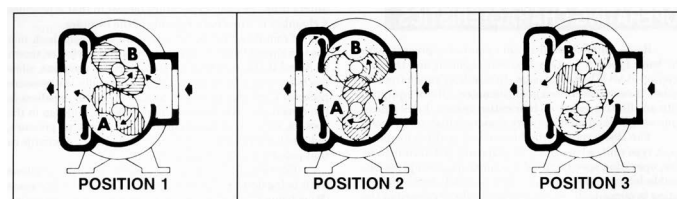

Figure 2 - Flow Through a RAS WHISPAIR Blower
Operation of the proprietary Roots RAS WHISPAIR blower is represented in Figure 2. Just as in the standard Roots RAS blower, the air flow is from right to left, with the lower shaft rotating clockwise. This design differs from the basic RAS rotary blower in that it provides a chamber on the discharge side of the cylinder.
As shown in Position 1 in Figure 2, the known volume (A) is delivered to the discharge chamber while the space (B) is filled with an equal volume at inlet pressure. In Position 2 the space has been sealed from an inlet, but some discharge pressure is entering the space (B) through the slot passage, as indicated by the small arrows. The force of the jet assists the rotation of the impeller, while also building pressure in the sealed space (B). Rotation continues to Position 3, where the volume (B) is delivered to the discharge chamber in the same manner as the volume (A) in Position 1. Because of the almost complete pressure equalization through the slot, shock is minimized.